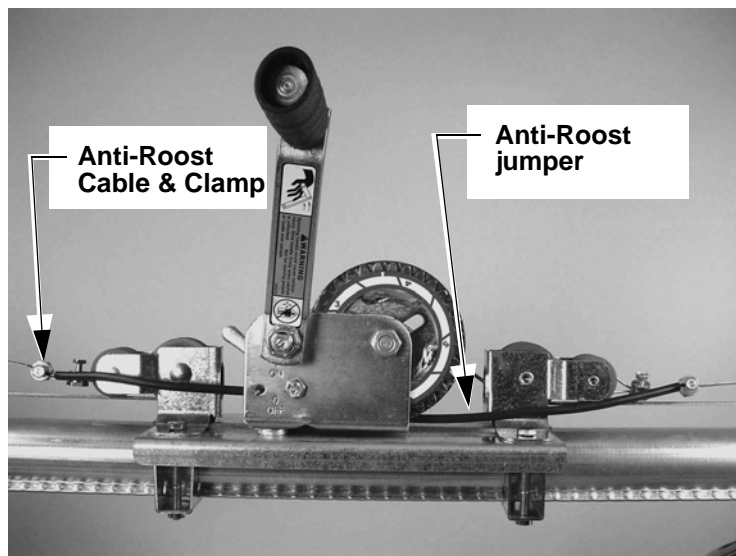
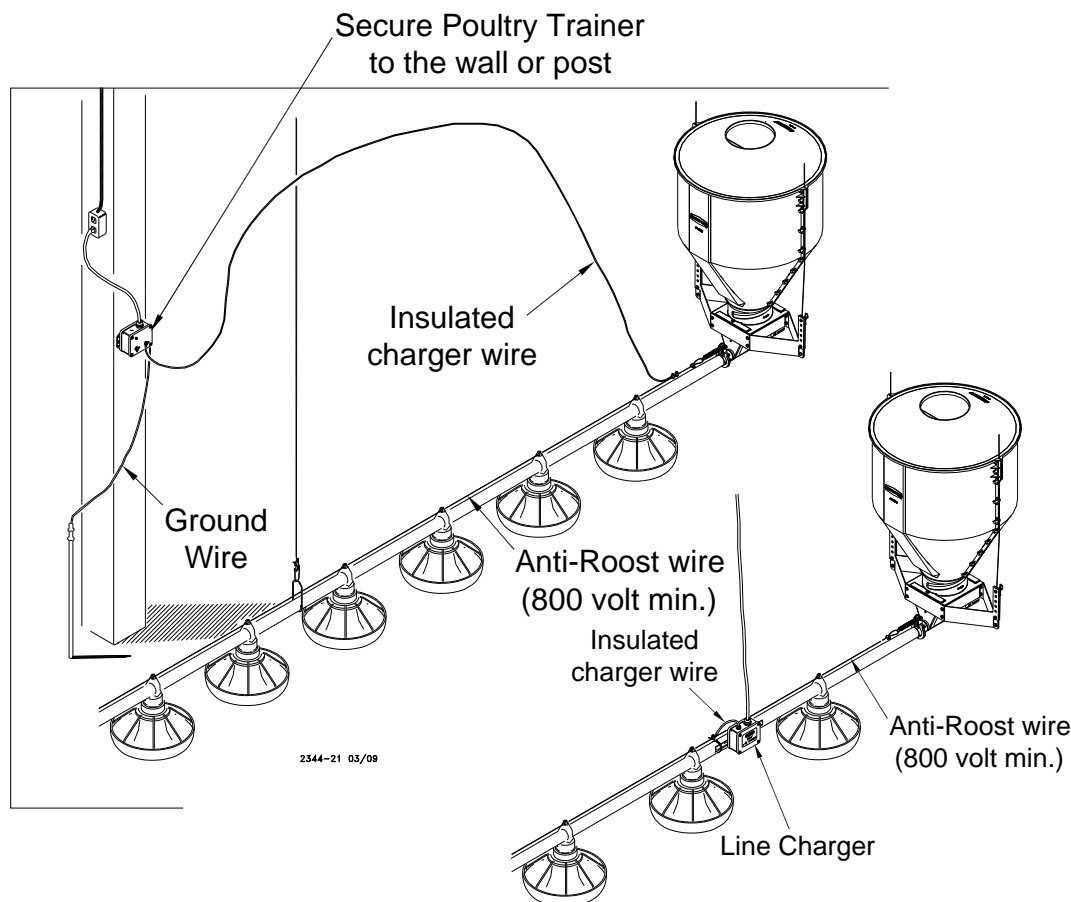

Figure 58. Anti-Roost Cable Connection
Figure 59. Anti-Roost Cable Mid-Line Connection
12. Install the Poultry Trainer or Line Charger, as shown in **Figure 58** or **Figure 59**.
The Poultry Trainer is used to power all Anti-Roost lines in a house. See **Figure 59**.